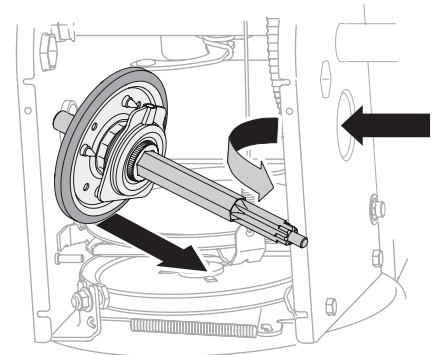

Figure 4-26
6. Carefully position hex shaft downward and to left before carefully sliding friction wheel assembly off shaft. See Figure 4-26.